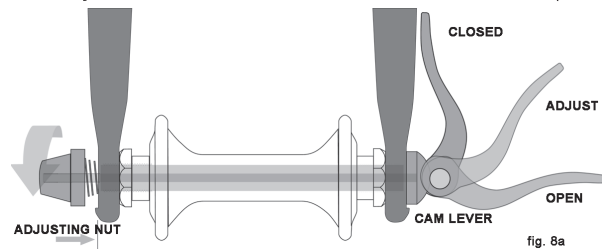
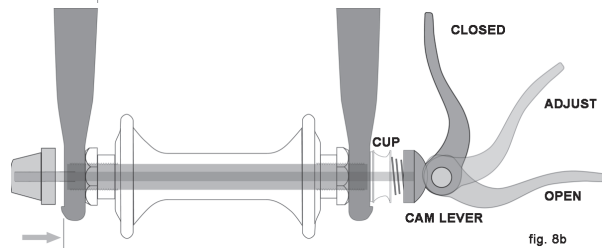

fig. 8a
fig. 8b
- A hollow axle with a shaft (“skewer”) running through it which has an adjustable tension nut on one end and an over-center cam on the other (cam action system, figs. 8a & 8b)
There are currently two types of over-center cam wheel retention mechanisms: the traditional over-center cam (fig. 8a) and the cam-and-cup system (fig. 8b). Both use an over-center cam action to clamp the bike's wheel in place. Your bicycle may have a cam-and-cup front wheel
A. ADJUSTING THE TRADITIONAL CAM ACTION MECHANISM (FIG. 8A)
B. ADJUSTING THE CAM-AND-CUP MECHANISM (FIG. 8B)
- (2) If your bike has cam action front wheel retention, move the cam lever from the locked or CLOSED position to the OPEN position (figs. 8a & b). If your bike has through bolt or bolt-on front wheel retention, loosen the fastener(s) a few turns counter-clockwise using an appropriate wrench, lock key or the integral lever.
- (3) If your front fork has a clip-on type secondary retention device, disengage it. If your front fork has an integral secondary retention device, and a traditional cam action system (fig. 8a) loosen the tension adjusting nut enough to allow removing the wheel from the dropouts. If your front wheel uses a cam-and-cup system, (fig. 8b) squeeze the cup and cam lever together while removing the wheel. No rotation of any part is necessary with the cam-and-cup system. You may need to tap the top of the wheel with the palm of your hand to release the wheel from the front fork.
- (1) If your bike has cam action front wheel retention, move the cam lever so that it curves away from the wheel (fig. 8b). This is the OPEN position. If your bike has through bolt or bolt-on front wheel retention, go to the next step.
- (2) With the steering fork facing forward, insert the wheel between the fork blades so that the axle seats firmly at the top of the fork dropouts. The cam lever, if there is one, should be on rider's left side of the bicycle (fig. 8a & b). If your bike has a clip-on type secondary retention device, engage it.
- (3) If you have a traditional cam action mechanism: holding the cam lever in the ADJUST position with your right hand, tighten the tension adjusting nut with your left hand until it is finger tight against the fork dropout (fig. 8a). If you have a cam-and-cup system: the nut and cup (fig. 8b) will have snapped into the recessed area of the fork dropouts and no adjustment should be required.
- (4) While pushing the wheel firmly to the top of the slots in the fork dropouts, and at the same time centering the wheel rim in the fork:
- (a) With a cam action system, move the cam lever upwards and swing it into the CLOSED position (fig. 8a & b). The lever should now be parallel to the fork blade and curved toward the wheel. To apply enough clamping force, you should have to wrap your fingers around the fork blade for leverage, and the lever should leave a clear imprint in the palm of your hand.